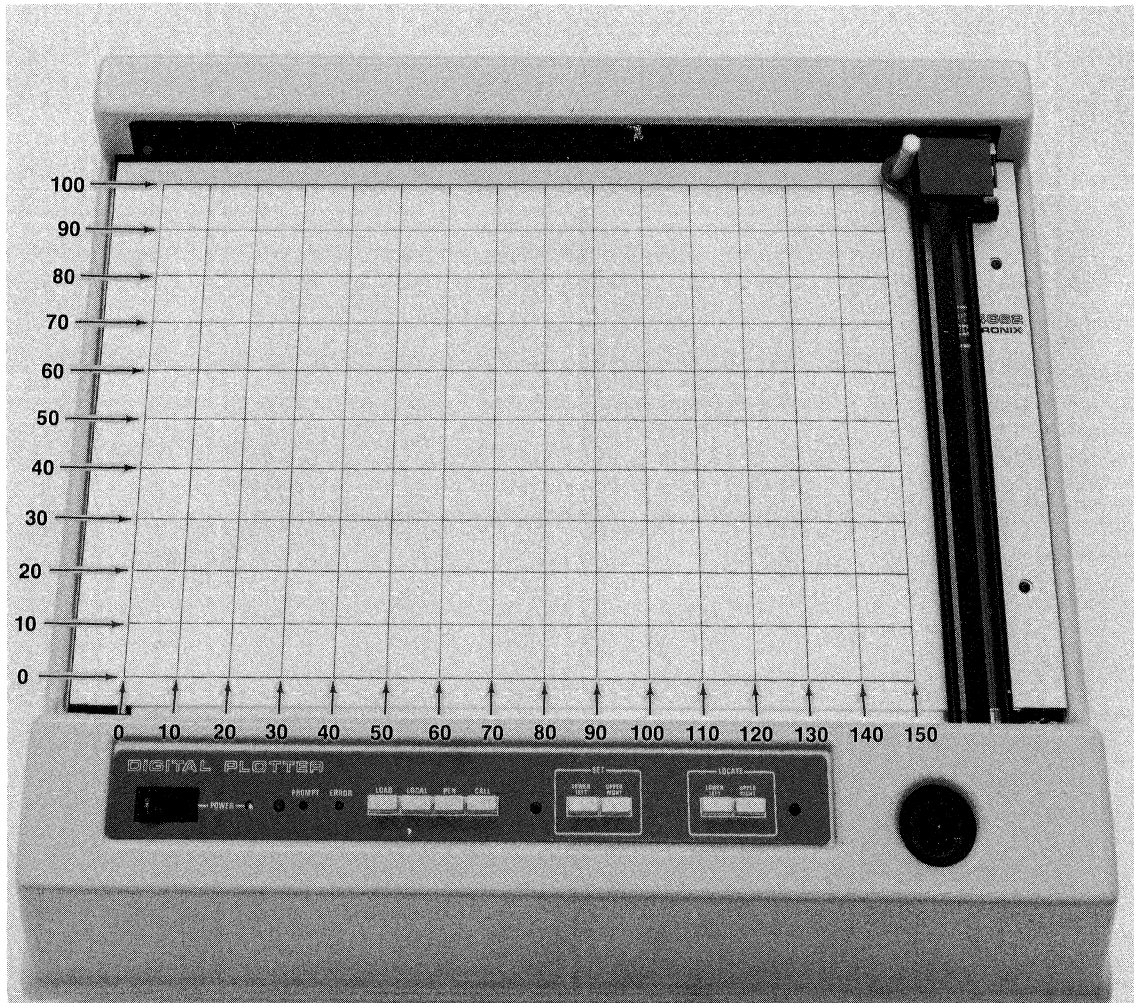

Fig. 2-22. Graphic Display Units, showing the full scale size.
When operating the Plotter through the GPIB interface, X-Y coordinate values are transmitted as ASCII decimal numbers in GDU. The X and Y values are separated by a delimiter (a comma or a space), and the full scale page graphic data ranges are 0—150 GDUs (X) and 0—100 GDUs (Y). (Refer to Fig. 2-22.)